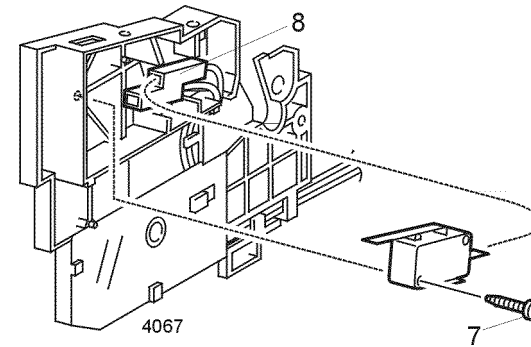

Figure 1 Top Cover Interlock Switch
6. Remove the screw that secures the Interlock Switch to the Right Print Cartridge Guide Assembly (Figure 1).
7. Disconnect P/J623 from the Interlock Switch (Figure 1). Remove the switch.